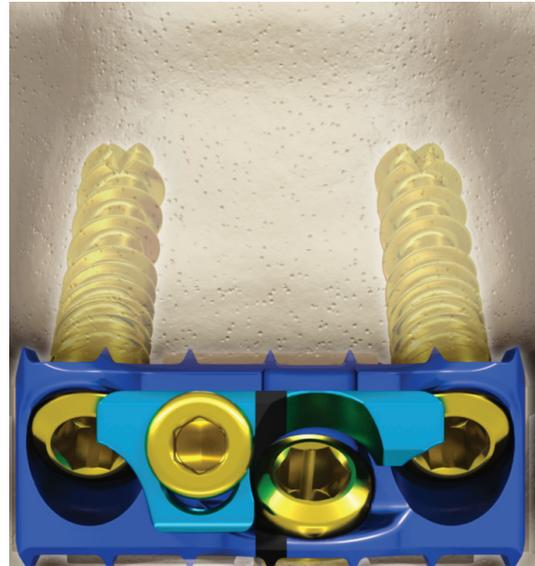

Figure 22
- Turn the driver clockwise. As the screw tightens, the teal locking cap will slide over the screw heads. Turn the torque limiting handle until an audible click is heard when the locking mechanism is tightened to 4 in-lb. The locking mechanism and torque limiting handle will provide visual, audible, and tactile confirmation that the locking mechanism is fully secured and the screw heads are partially covered (Figure 22).